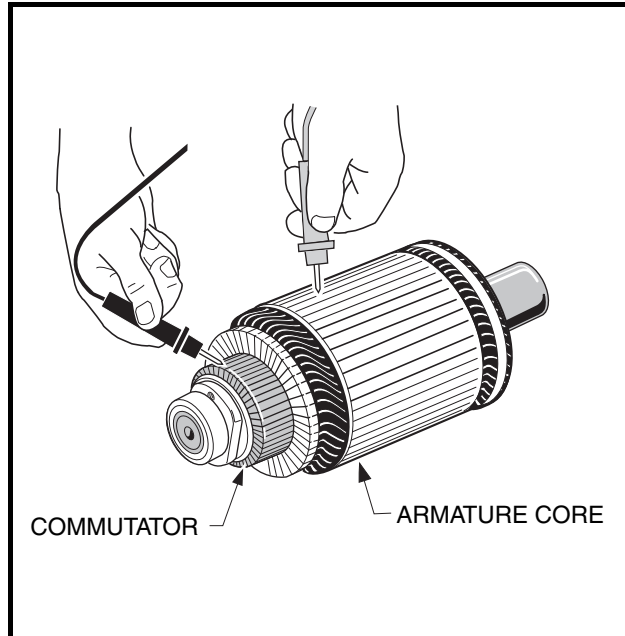

Figure 16a-6 Armature Test
1. With a multimeter set to 200 ohms, place one probe on the commutator and the other on the armature core. The multimeter should indicate no continuity (**Figure 16a-6, Page 16a-6**). If the reading is incorrect, replace the armature.
1. Inspect the insulators (4 and 7) for cracks or other damage (**Figure 16a-9, Page 16a-8**).
2. Inspect the brushes (13) for damage or excessive wear. Replace brushes if required. **See following NOTE.**